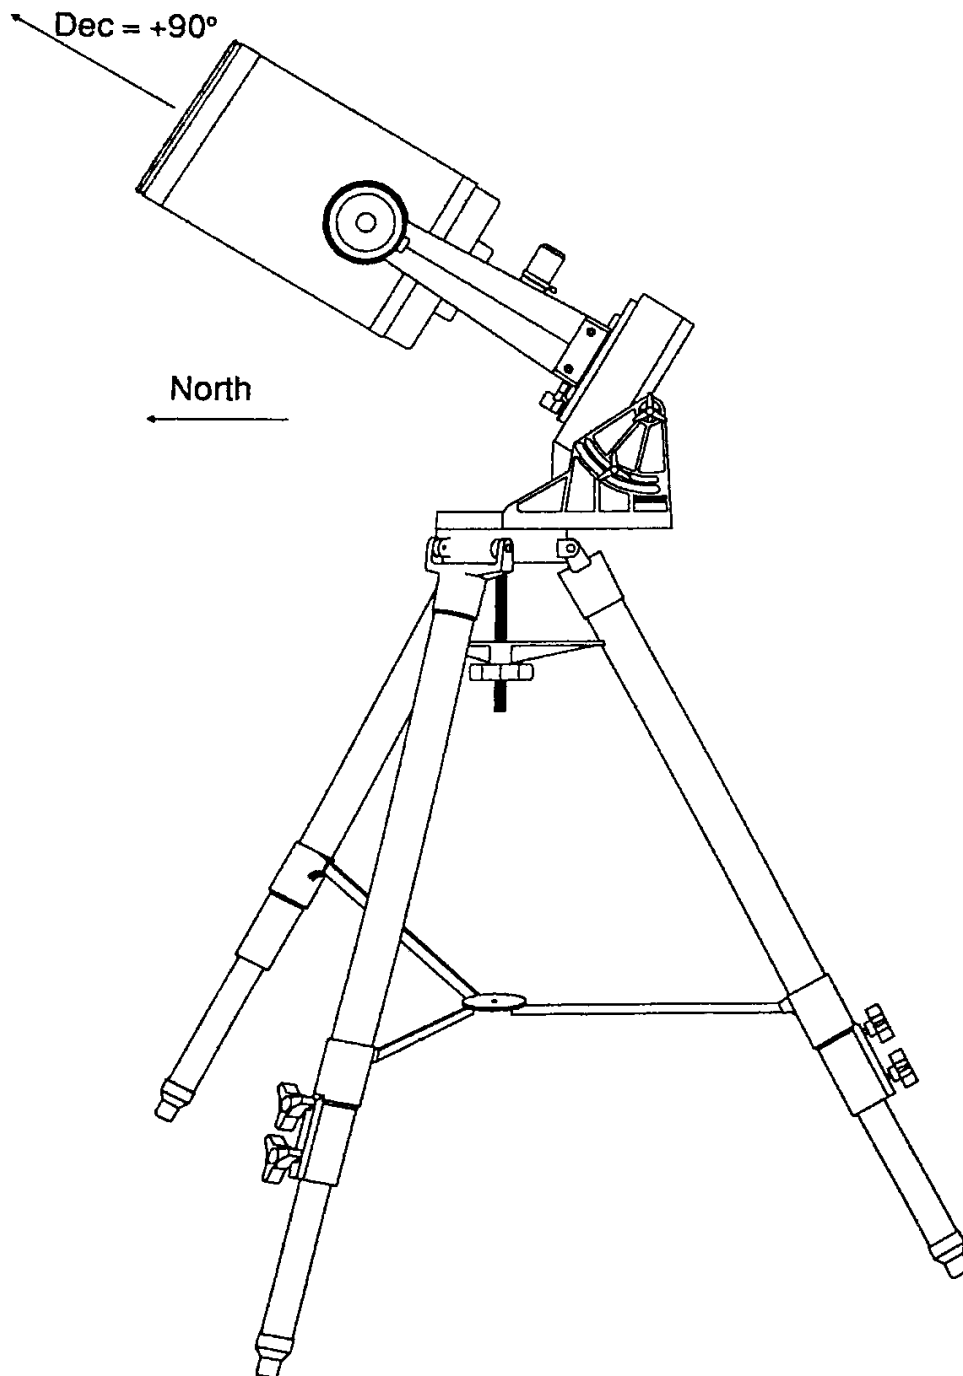

Fig. 6: Telescope Pointing at HA = 00 and DEC = +90 Degrees
- a. Point the telescope as close to $+90^\circ$ in Dec. as possible and lock the Dec. clamp. (Stand back from your scope a few feet and make sure the tube looks parallel with the fork arms; adjust if necessary). Also position the telescope at about HA = 00h as shown in Figure 6.
3. Make sure the bolts that hold the fork arm to the drive base are tightened. As you manually move the scope $\pm 90^\circ$ in RA, the Pole Star and other stars in the field should rotate around a point close to the center of the field. If they don't, go back to step 1. If they do, turn off your clock drive and move your scope in RA **only** until the fork arms are at equal heights, that is HA = 00h = pointing at the meridian (see Figure 6). Use a bubble level if you have one. The RA and DEC axes are now perpendicular.